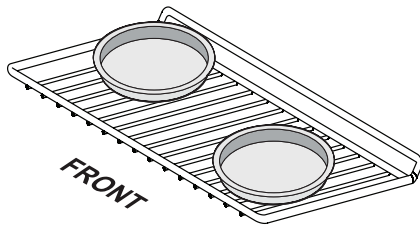

Figure 14: Baking with a single rack
- When baking using one oven rack, position bakeware as shown in Figure 14. Allow at least 2 inches (5 cm) of space between bakeware for proper air circulation.